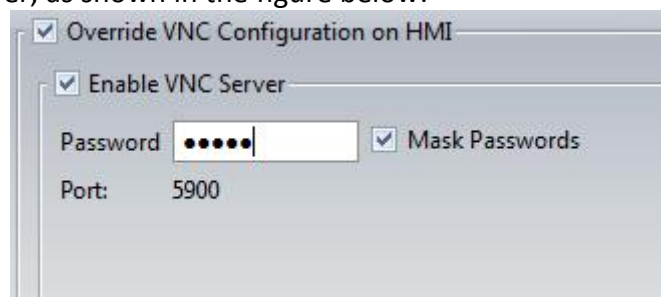

Figure 168 VNC Server Setting-Project
1. Create a new project and set the settings in the **【VNC】** tab page of the **【Server】** setting screen as shown in **Figure 168 VNC Server Setting-Project**.